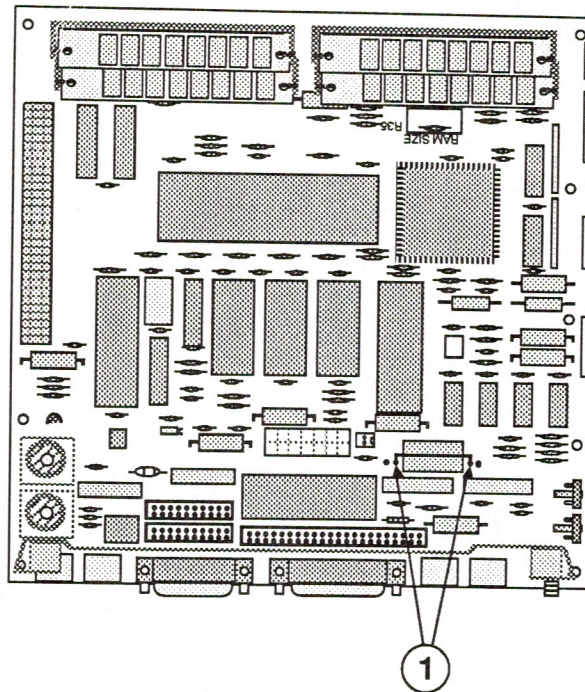

FIGURE 33
6. Orient the new battery so that the end marked "+" matches the "+" on the main logic board. Insert the battery leads into the extra set of mounting holes (Figure 33, #1) on the logic board (just inside the original mounting holes). Make sure the leads go all the way through the logic board to the other side.